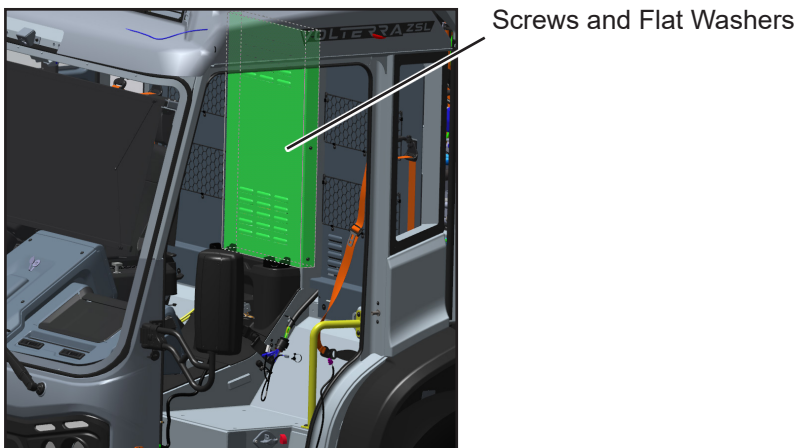

Figure 2 - Back-of-cab (inside) panel
- Loosen and remove screws and flat washers from the perimeter of back-of-cab (inside) panel. See Figure 2. Retain screws and flat washers for reinstallation.